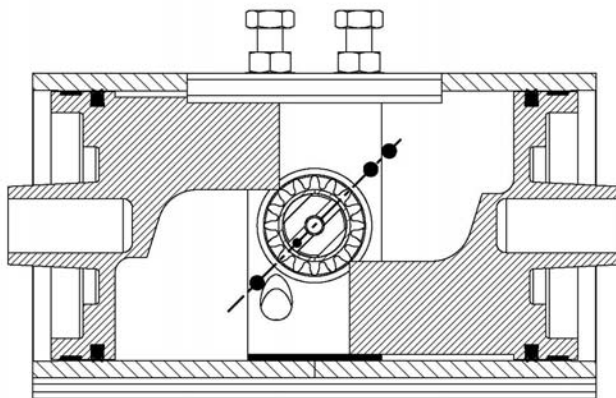

Figure 1 : Assembly for standard mode spring return fail closed (Fail CW)
- Step 13** Rotate the pinion so that the dot on the pinion is positioned close to the single dot on the top pad of the actuator body. Accurate pinion alignment can now take place by lining the center of the slot on the top of the pinion with the single dot on the body. (See Figure 1, page 8)
**Figures 1 and 2:**